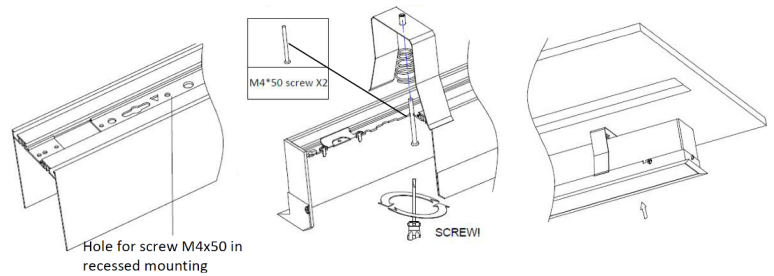

Fig. 8.4
4. Insert the M4x50 screws provided through the hole shown in Fig 8.4, the screw will pass through the spring into the rivet on
the clip. Adjust the screw M4x50 to make the flanges close to the ceiling and tighten the screw. Repeat the same steps on the other side. (Fig. 8.4)